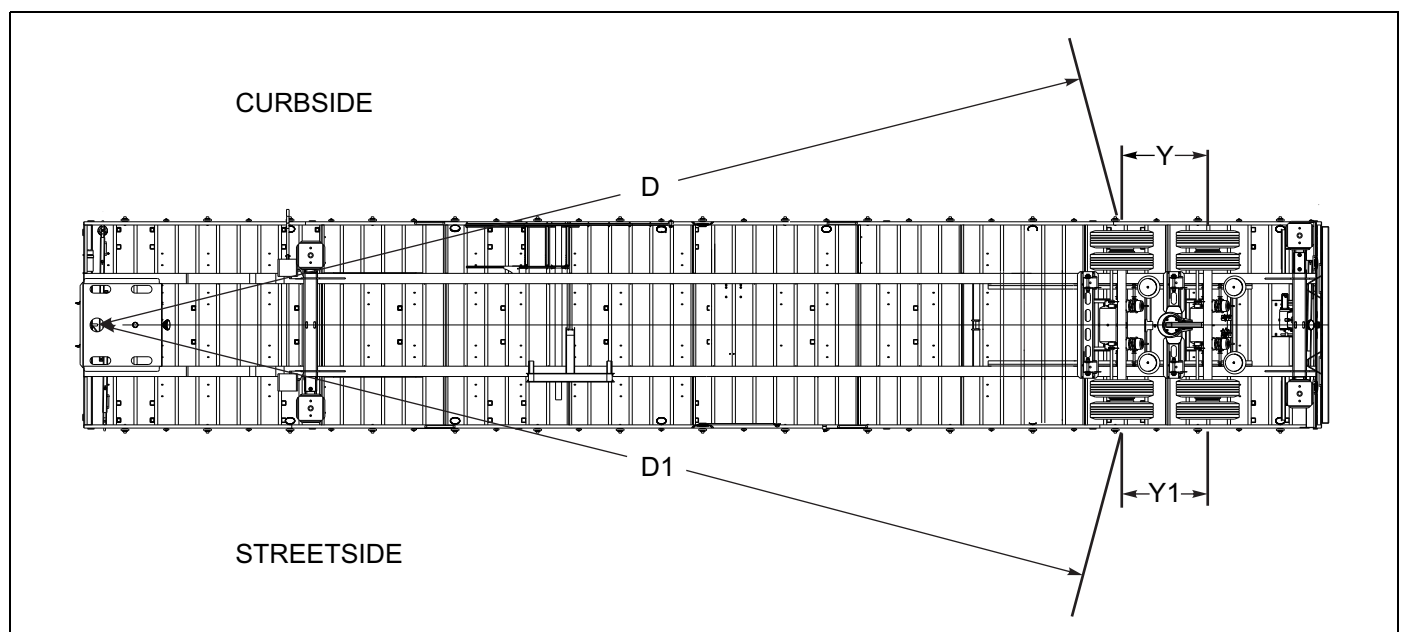

Figure 4-9: Checking Axle Alignment
4. Measure (D) from the plumb bob to the center point on one end of the axle. Record this measurement (See Figure 4-9.)
5. Measure (D1) to the other end of the axle in the same manner as in **step 4**. Record this measurement (See Figure 4-9.)